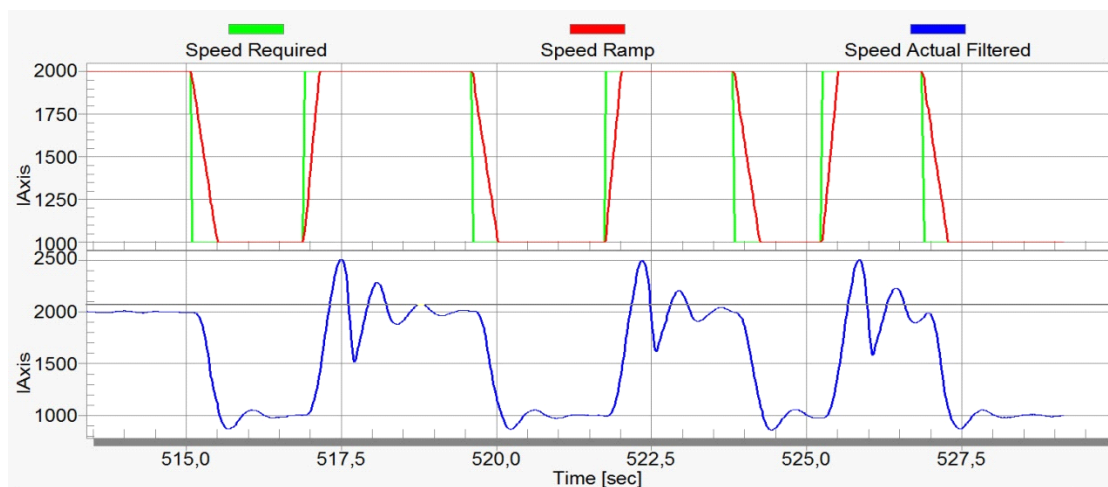

Figure 13. Speed Controller Response— SL_Kp value is low, *Speed Actual Filtered* greatly overshoots
- SL_Kp value is low, and *Speed Actual Filtered* greatly overshoots and the long settling time is unwanted, see Figure 13.